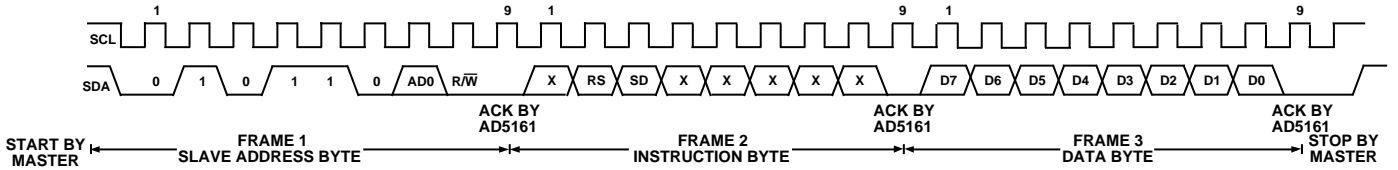
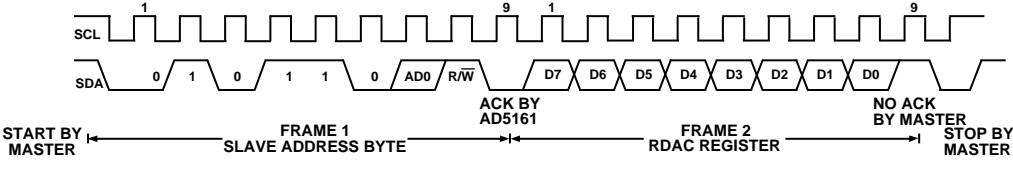

Figure 40. Writing to the RDAC Register
Figure 41. Reading Data from a Previously Selected RDAC Register in Write Mode
1. The master initiates data transfer by establishing a START condition, which is when a high-to-low transition on the SDA line occurs while SCL is high (see Figure 40). The following byte is the slave address byte, which consists of the 7-bit slave address followed by an R/W bit (this bit determines whether data will be read from or written to the slave device).
4. In the read mode, the data byte follows immediately after the acknowledgment of the slave address byte. Data is transmitted over the serial bus in sequences of nine clock pulses (a slight difference with the write mode, where there are eight data bits followed by an acknowledge bit). Similarly, the transitions on the SDA line must occur during the low period of SCL and remain stable during the high period of SCL (see Figure 41).
5. When all data bits have been read or written, a STOP condition is established by the master. A STOP condition is defined as a low-to-high transition on the SDA line while SCL is high. In write mode, the master will pull the SDA line high during the tenth clock pulse to establish a STOP condition (see Figure 40). In read mode, the master will issue a No Acknowledge for the ninth clock pulse (i.e., the SDA line remains high). The master will then bring the SDA line low before the tenth clock pulse which goes high to establish a STOP condition (see Figure 41).